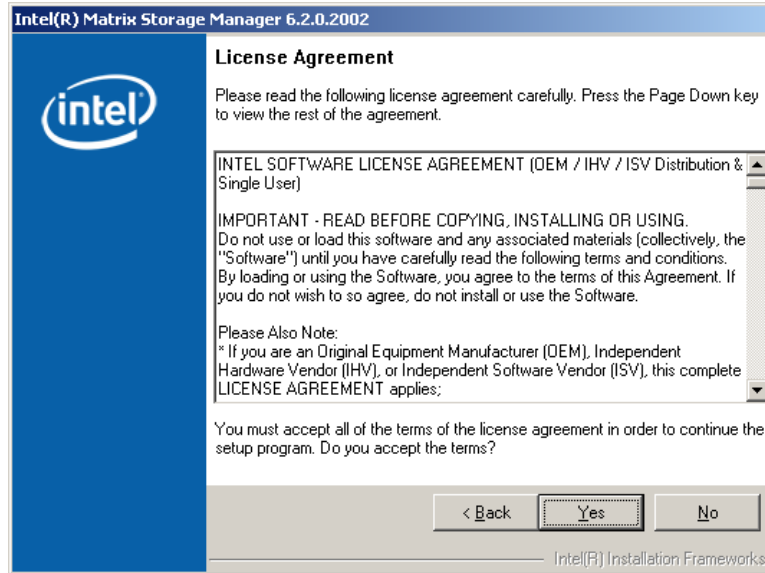

Figure 6-32: Matrix Storage Manager License Agreement
Step 10: Click **NEXT** and a license agreement appears (Figure 6-32).